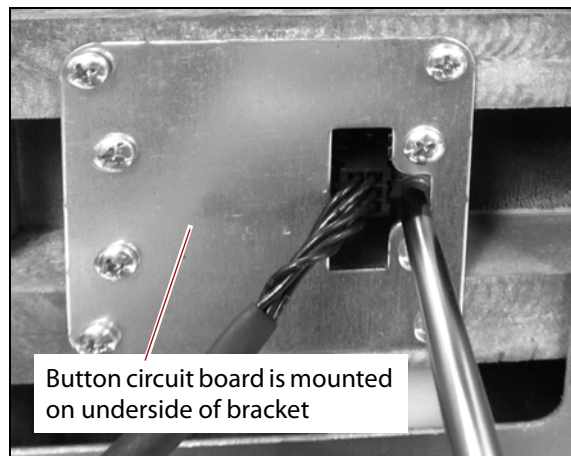

Figure 28 Depress the cable connector latch.
- b. Using a small flatblade screwdriver, reach through the button mounting bracket and press the release tab on the door release cable connector to disengage the connector from the button circuit board (see Figure 28).